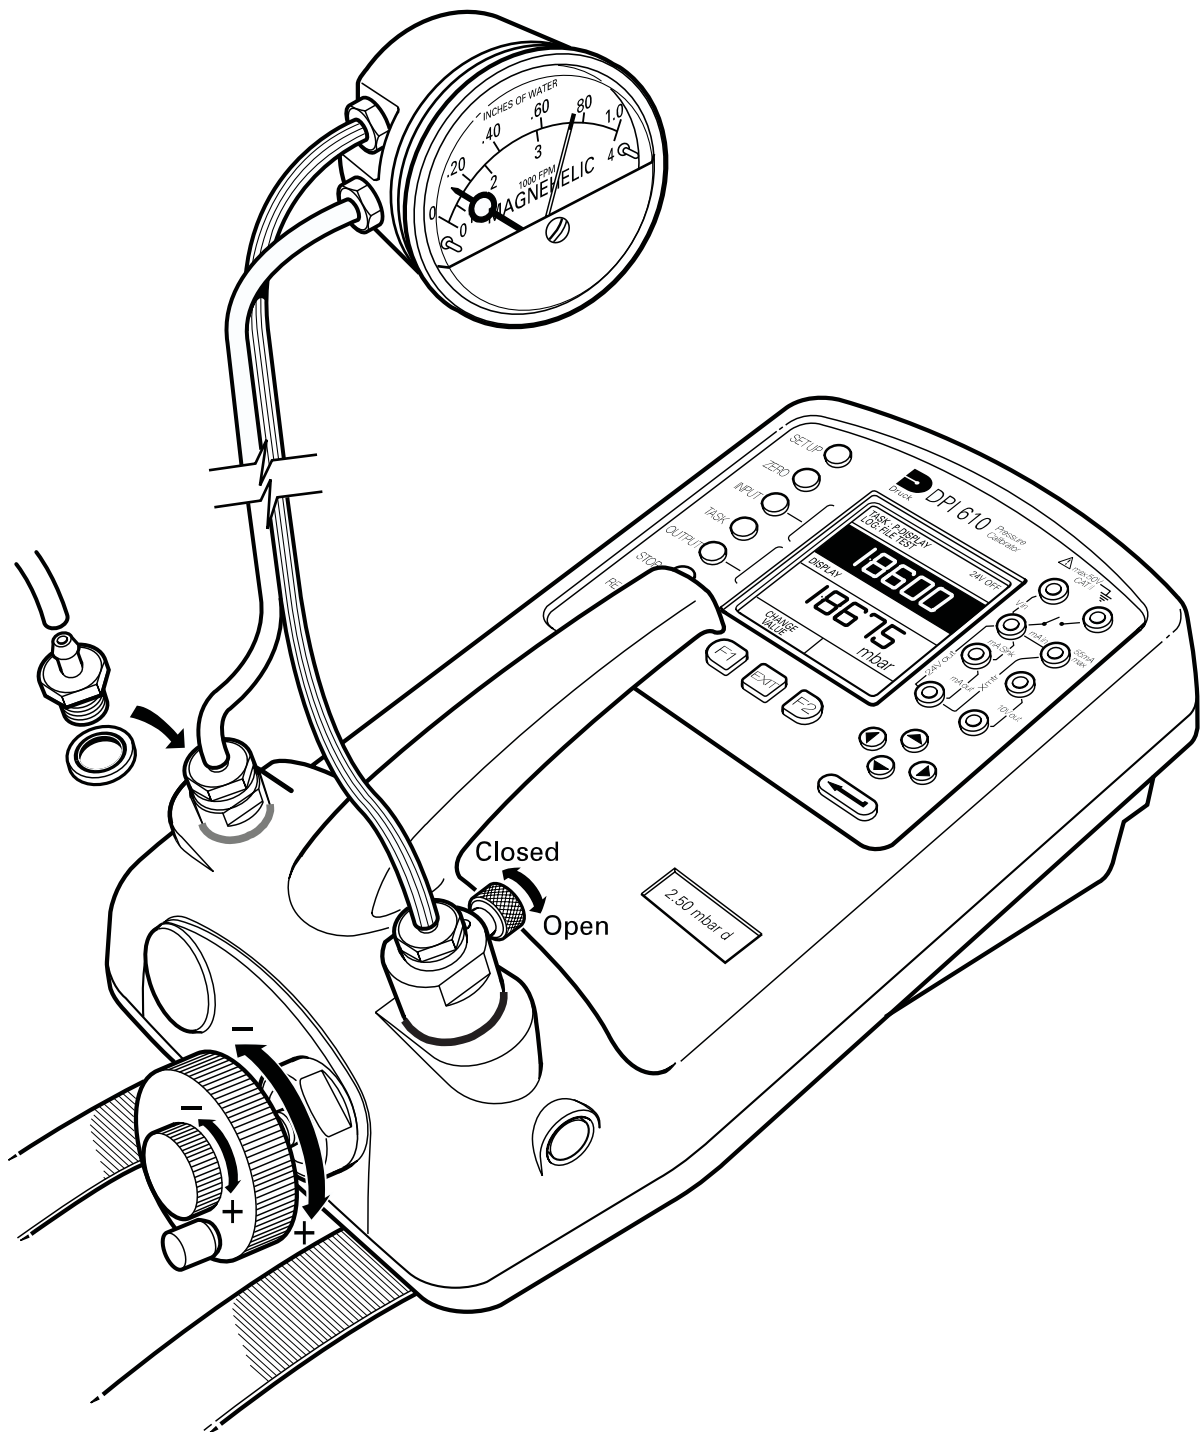

Figure B2 - DPI 610LP Test Connections
- ❑ Fit the an appropriate pressure fitting to both the positive (+) and negative (-) ports using a bonded seal as shown in Figure B2. Ensure that both fittings are tight.
**Note:** *To minimise temperature effects, always use double tubing, separating the arms of the tubing only by the minimum amount necessary to make the pressure connections. A typical application, P-DISPLAY, showing test connections to a Magnehelic pressure gauge are shown in Fig.B2.*